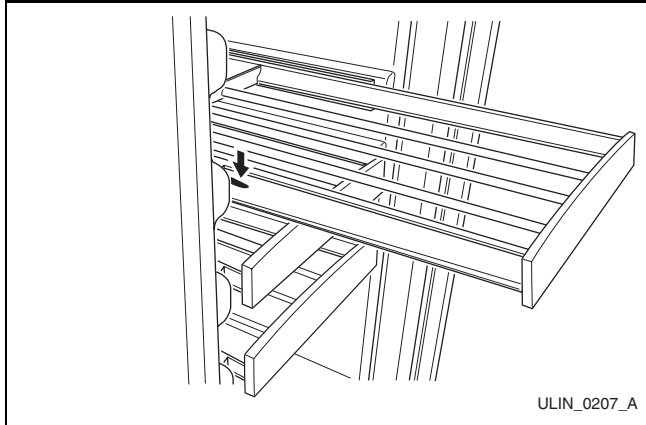

Figure 25
3. Press the left rack release lever (**Figure 25**) down, and at the same time, lift the corresponding right rack release lever up, and pull the rack out until it is free of the tracks and the cabinet.